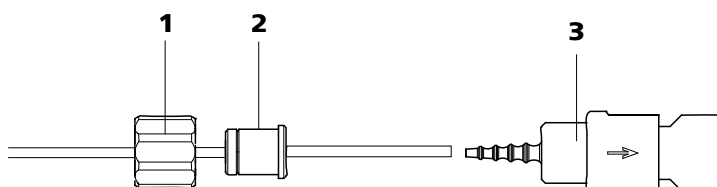

Figure 6 Install pump tubing connection with filter
- **Case A:** a 6.2744.180 pump tubing connection **with filter** (see Figure 6, page 17) or